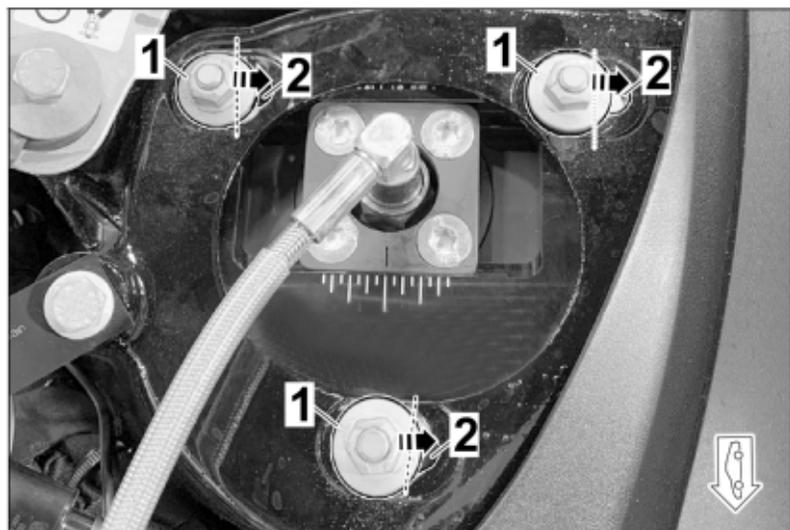

Figure 12
10. – Place the support bearing over the elongated holes ⇒ *Figure 12 -1-* in the dome into the center position (picture is different). Fasten the support bearings to the dome with three new collar nuts. **Collar nut Tightening torque 33 Nm (24.34 ft-lb)**